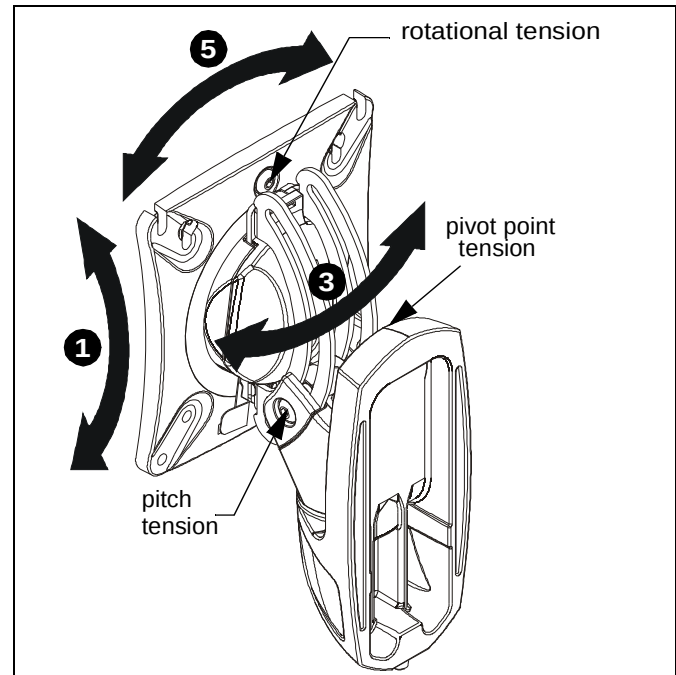

Figure 8
1. Adjust pitch to desired tilt position. (See Figure 8)
2. Adjust pitch tension screw to change the adjustment tension. (See Figure 8)
3. Adjust pivot position as desired. (See Figure 8)
4. Use 3/16" hex key (N) to adjust pivot point tension screws to change pivot adjustment tension. (See Figure 8)
5. The monitor may be adjusted 90 degrees in either direction in order to provide a portrait view of the monitor. (See Figure 8)
6. Use 3/16" hex key (N) to adjust rotational adjustment screw to adjust rotational tension. (See Figure 8)